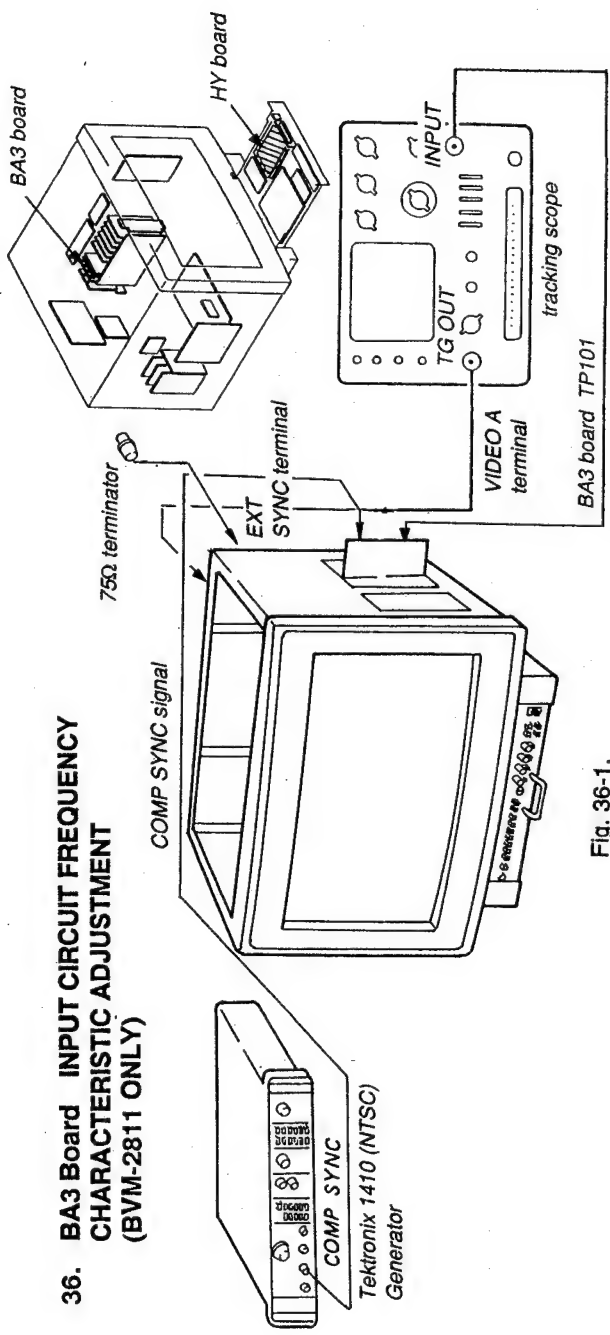

Fig. 36-1.
1. Complete the connection as shown in Fig. 36-1.